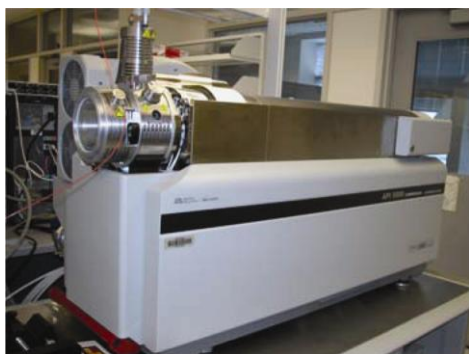

Figure 2. Applied Biosystems API 5000 LC/MS/MS
This instrument is coupled with an HPLC system to first separate the biological species of interest, based on their elution times off a column. The eluent is then introduced into the mass spectrometer for ionization to identify and quantitate the species using triple quadrupole MS technology. The principle of this technology is based on confirmation of a particular molecular ion by the generation of its daughter species using collisionally-induced dissociation or fragmentation (4). This technique, commonly known as multiple reaction monitoring (MRM), uses two resolving quadrupole mass filters, separated by another quadrupole, which is slightly pressurized by the introduction of a collision gas like hydrogen or helium. In the MS/MS mode, the first quadrupole is used in a mass-resolving mode to select the precursor ion. The second quadrupole (or pressurized multipole collision cell) is used to produce fragmentation of the precursor or parent ion. The final quadrupole is used in a mass-resolving mode to provide mass analysis of the resulting fragmented or daughter ions. These species are then compared to reference spectra/data in order to produce unambiguous identification of the biomolecules of interest. The LC/MS/MS instrument used for this study is shown in Figure 2.